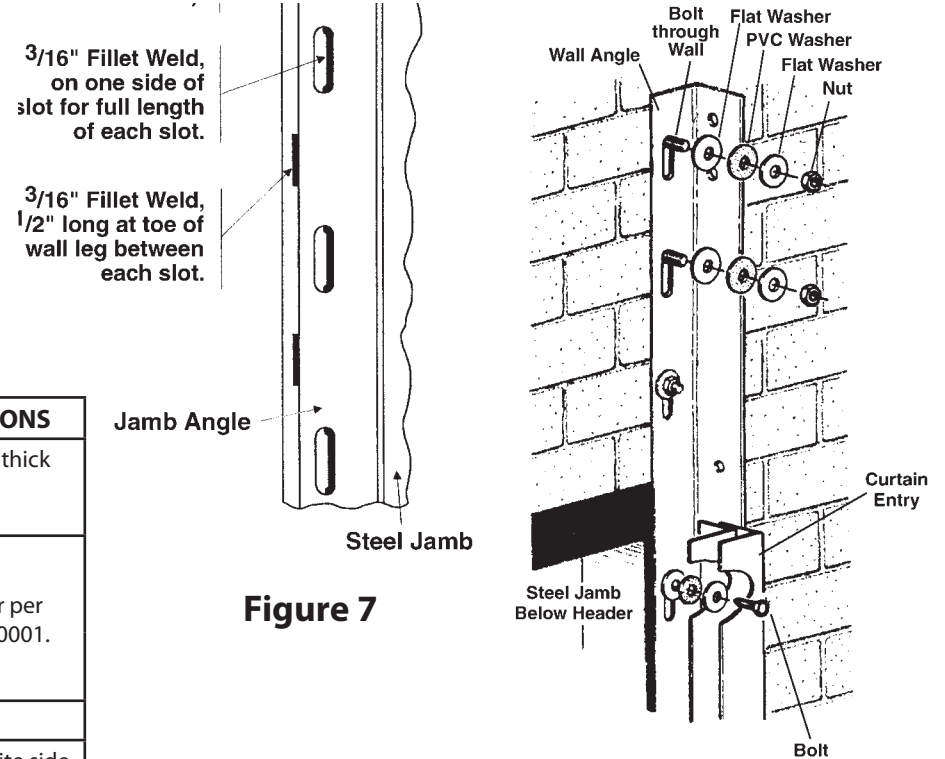

Figure 7
**NOTE:** When steel jamb does not extend above the opening, use three thru-bolts to fasten each wall angle above the opening. See Figure 7.